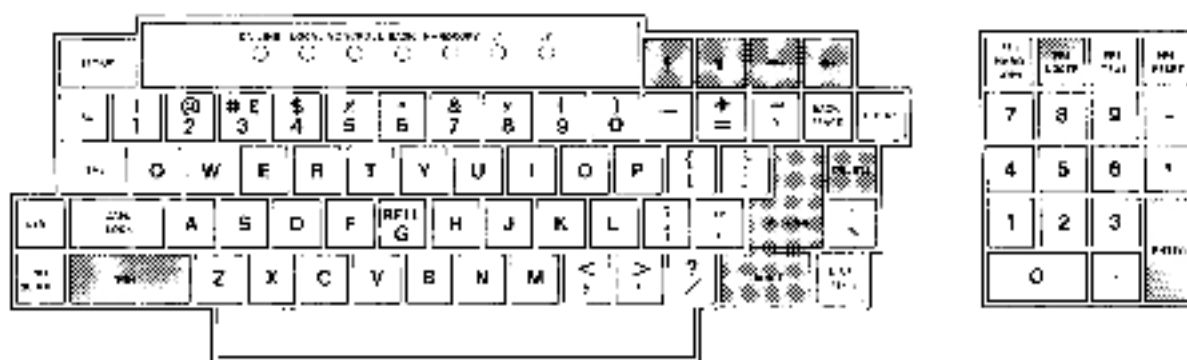

Figure 3-5 Locator Mode Keys
Figure 3-5 identifies the keys that have a special meaning to the terminal in locator mode. The following paragraphs briefly describe the function of the locator keys in locator mode. If the operator presses any keys other than those described, the terminal exits locator mode, sends the code of the key pressed, and then sends the screen location of the locator cursor. If the terminal enters locator mode through the host computer, the terminal sends a carriage return (CR) code followed immediately by the key code.